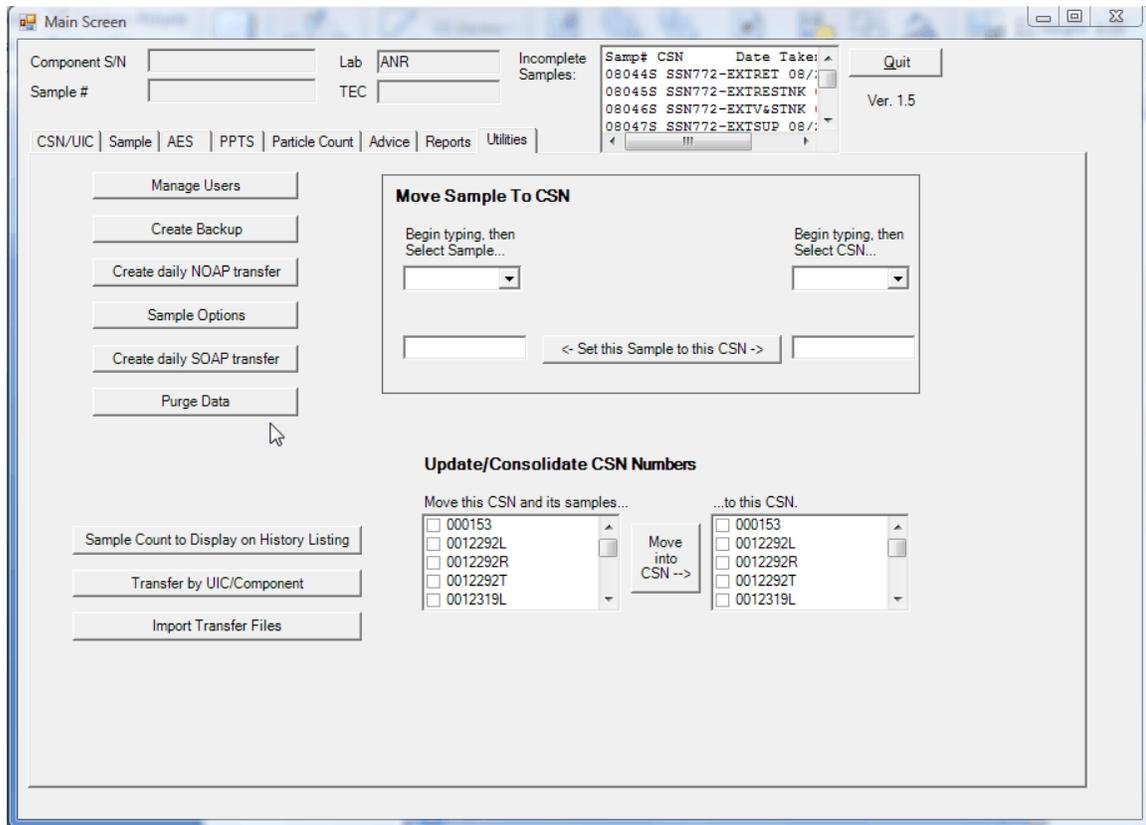

Figure 90. Utilities Tab
- d. Sample options. From the main sample screen press the Utilities tab and the following screen will appear (Figure 90). Sample options gives you the ability to change sample information for a given sample.